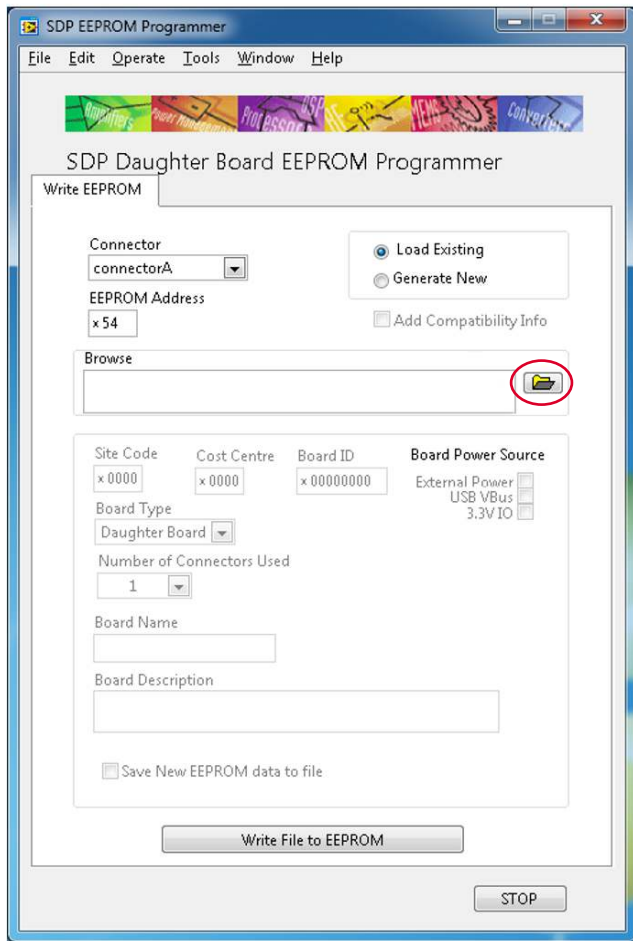
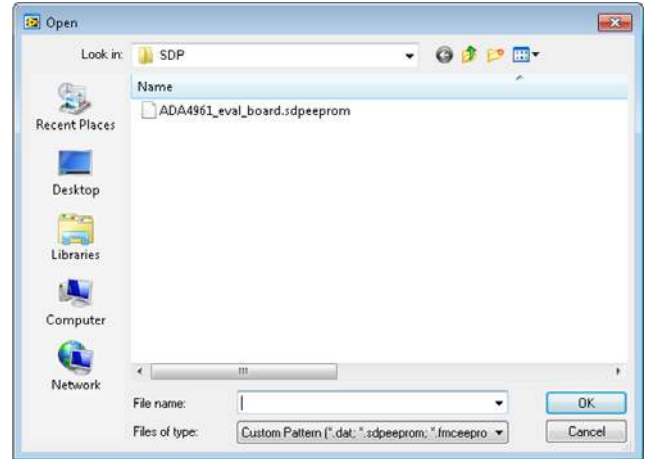
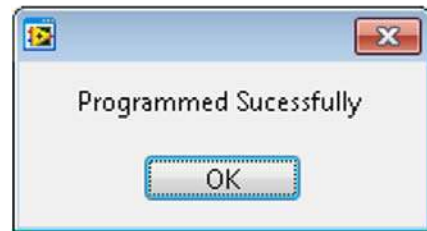

Figure 3. SDP EEPROM Programmer GUI
Figure 4. Selection Window for EEPROM Configuration File
Figure 5. EEPROM Programmed
2. Run the SDP EEPROM Programmer. The SDP EEPROM Programmer GUI opens, as shown in Figure 3.
3. Enter 0x54 for the EEPROM address, click **Load Existing**, click the **Select Folder** button (circled in red in Figure 3), and then a selection window opens, as shown in Figure 4. You may need to navigate to the directory where the EEPROM configuration file is stored. Open the **ADA4961\_eval\_board.sdpeeprom** file, and then click **OK**.
4. After Step 3 is completed, the SDP EEPROM Programmer GUI window opens again, as shown in Figure 3. Click **Write File to EEPROM**, and a window opens indicating that the EEPROM has been programmed, as shown in Figure 5.